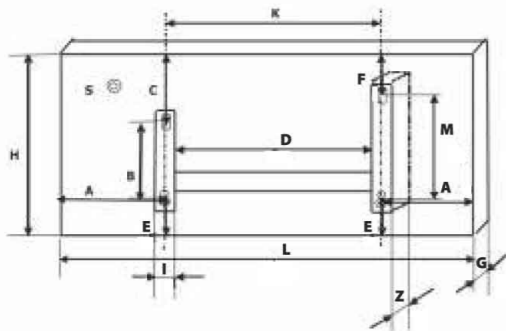

Fig. 2
Overall dimensions of the convector as per Fig.2 are given in Table 2.
Installation dimensions of the convector as per Fig.2 are given in Table 3.
3. In accordance with Fig. 2, 4 and tables 2, 3, determine the place of convector's installation observing minimum distances from objects and minimum distance from the floor.